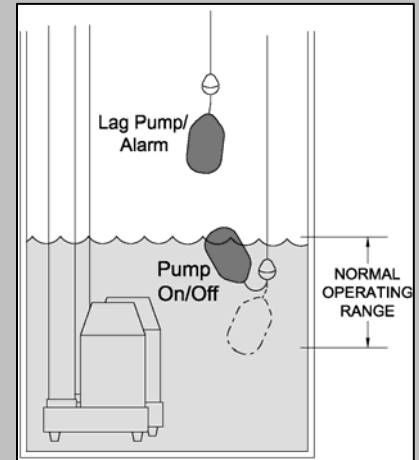

Figure 3
- If using a single wide-angle float switch for pump operation and/or if combining the lag pump and high level alarm into one float, see **Figure 3** for those configurations. See the wiring diagram for any special float wiring needed for those configurations.